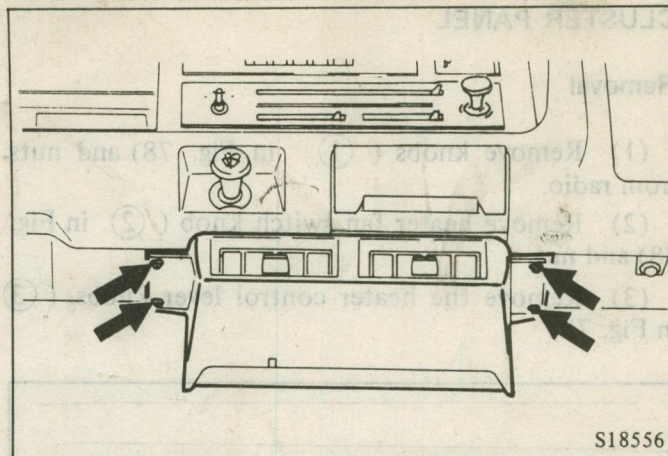

Fig. 83 Removing the Center Panel
- (8) Remove center panel as follows:
- (b) Remove center panel. (Fig. 83)